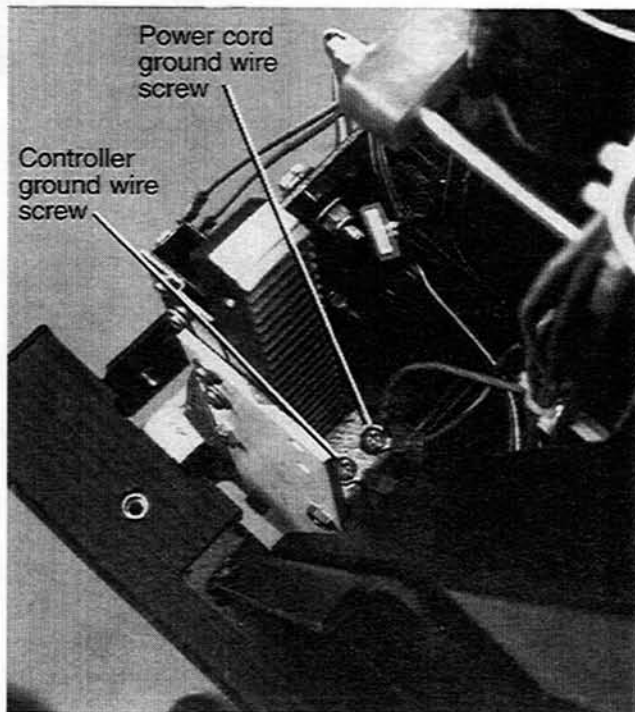

Figure 3-15. Upright Ground Wire Connection
9. Remove the Phillips screw which attaches the controller's ground wire to the headframe (Figure 3-15).